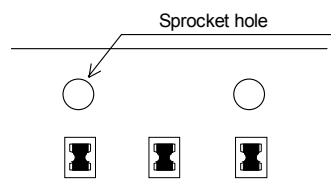

Figure-12
- 9). The direction of resistor shall be taped as Figure-12.